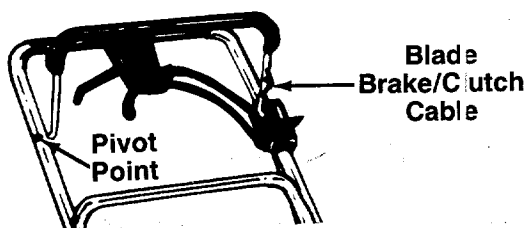

FIGURE 26.
**Blade Brake/Clutch**—Lubricate the pivot points on the blade brake/clutch handle and the brake cable at least once a season with light oil. See figure 26. The blade control must operate freely in both directions.